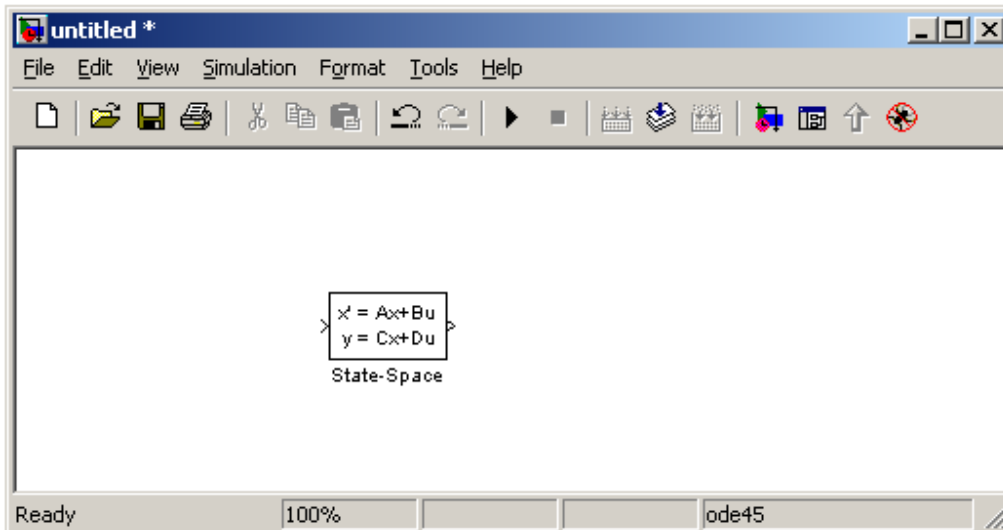

Figure 11: Simulink model with just state space block added
16. Start a new, blank model. Click on the “State-Space” block and drag this into your blank model. Your model should now look like Figure 11.